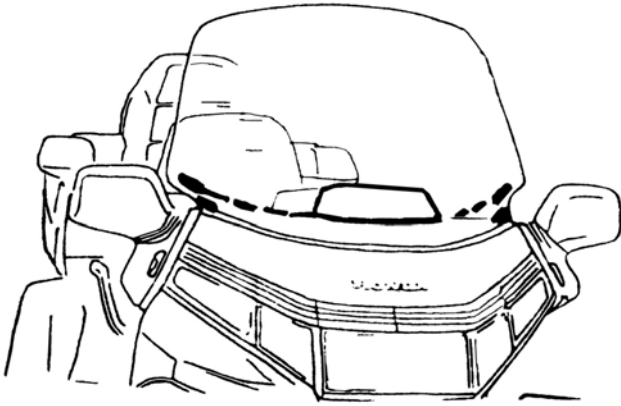

Figure 1
2. Draw a line across the windshield from the bottom of the top windshield adjustment lines. Figure 1.
4. Drill the four (4) corners. Using a sharp power sabre saw, cut out the pattern. Put masking tape on the foot of the saw or around the area to be cut to prevent scratching.
5. Remove the windshield and install the vent. The two (2) pieces will snap together in the windshield and will be held firm by the locking screws.